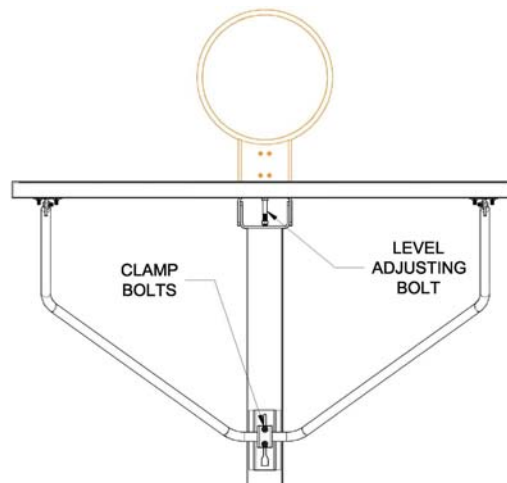

Figure 11
20. To level the backboard in the vertical plane, loosen the two carriage bolts at the board brace clamp on top of the boom. Refer to Figure 11. Using a $\frac{3}{4}$ " wrench, adjust the leveling bolt in the board mounting bracket until the backboard is plumb. Tighten the locking nuts on the leveling bolt. Tighten the two carriage bolts at the brace clamp and the two carriage bolts at each corner bracket securely.